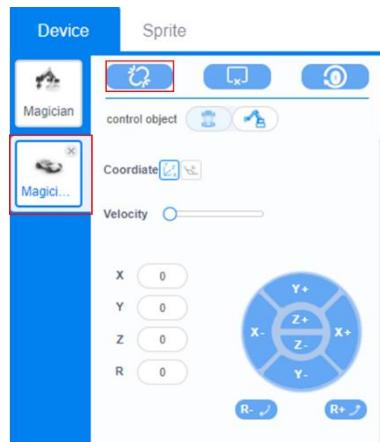

Figure 4.17 Connect the device
Step 4 Select Magician Go on Control area, then click , as shown in Figure 4.17.